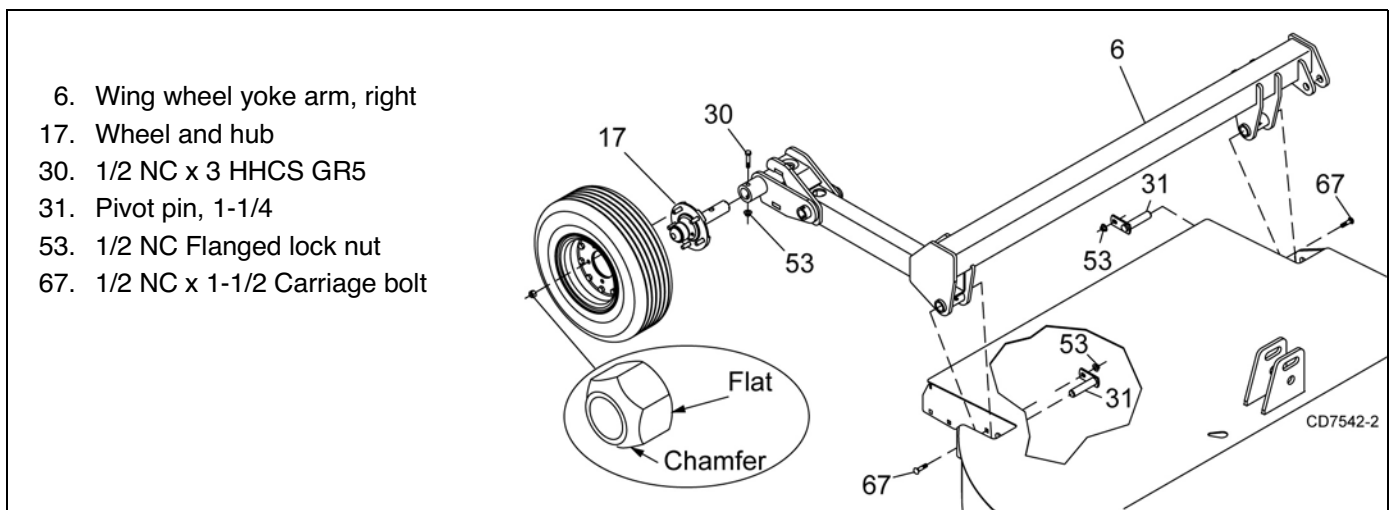

Figure 30. Wing Wheel and Hub Installation - Right
1. Attach wing wheel yoke (6) to the wing using pivot pins (31). Make sure pin flange is on the underside of the deck. See Figure 30.
2. Secure pivot pins to deck using carriage bolts (67) and flange lock nuts (53). Carriage bolts are on the outside, lock nuts on the underside.
3. Insert wheel hub (17) into wing wheel yoke arm (6) and align holes.
4. Secure into position using cap screw (30) and flanged lock nut (53).
1. Attach wing wheel yoke (2) to the wing using pivot pins (31). See Figure 30 for pin and hardware installation. Make sure pin flange is on the underside of the deck.
2. Secure pivot pins to deck using carriage bolts (67) and flange lock nuts (53). See Figure 30 for pin and hardware installation. Carriage bolts are on the outside, lock nuts on the underside.
3. Place tandem wheel bracket (16) around lower lower spring arm (3) and insert flange pin (17). Secure flange pin to tandem wheel bracket using cap screw (18) and flat washer (19).
4. Insert wheel hubs (15) into both sides of tandem wheel bracket (16) and align holes. Secure using cap screws (20) and flanged lock nuts (21).